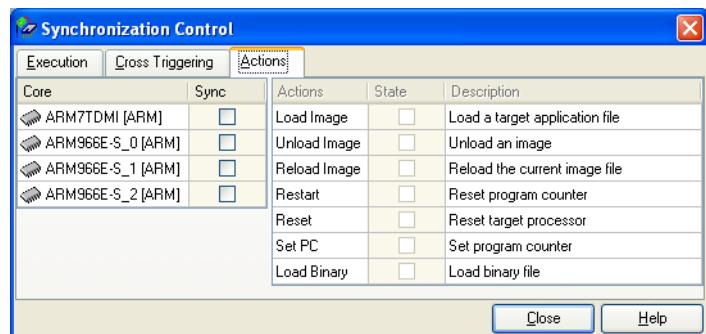

Figure 7-3 Synchronization Control window
2. Click the **Actions** tab to display the action controls. Figure 7-3 on page 7-14 shows an example: